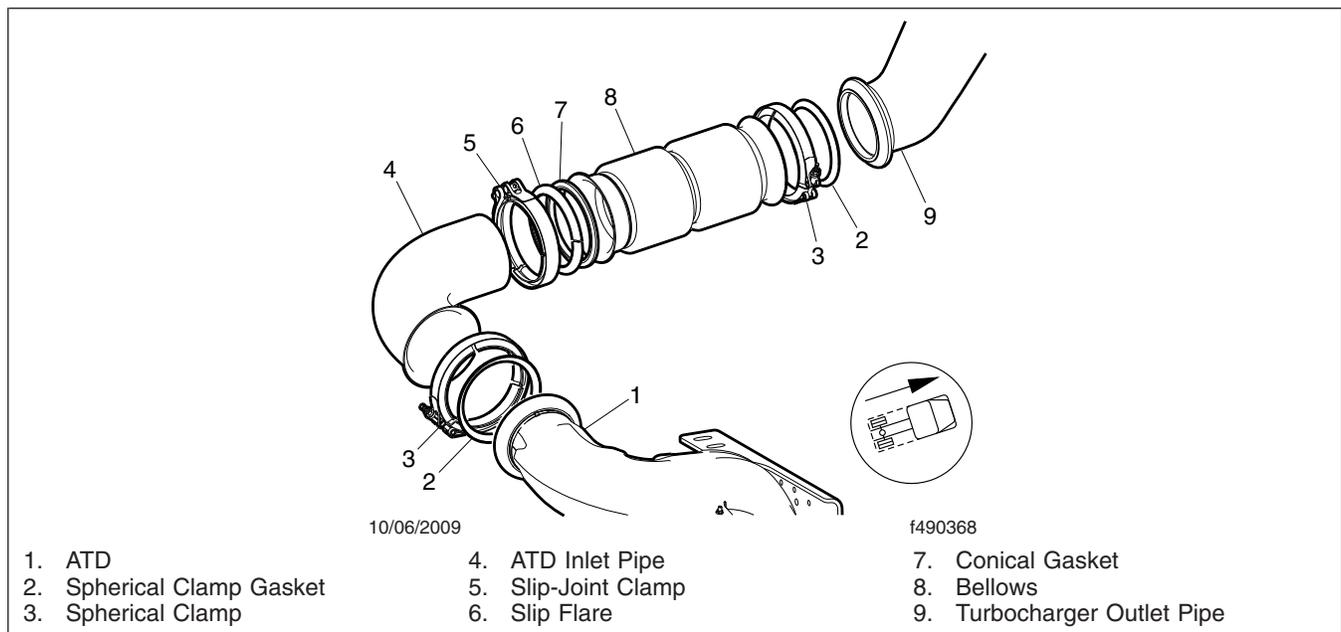

Fig. 10, Exhaust Pipe Installation
- 17.2 Fit the slip-joint clamp (5), flare (6), and compression gasket (7) onto the ATD inlet pipe in the order shown in the **fig. 10**.